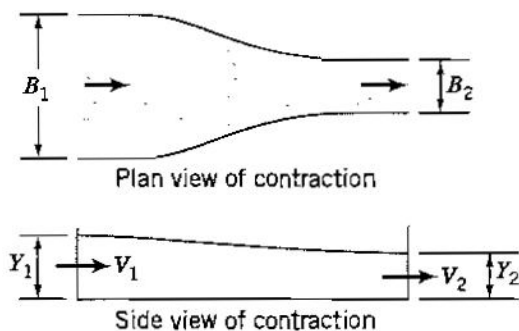

Figure P10.61
10.61 For the open-channel flow in the smooth contraction shown in plan view in Figure P10.61, the depth of the incoming flow is Y_1 and the depth of the exiting flow is Y_2 . The flow attains the critical Froude number at the throat. If the upstream Froude number is much less than unity, show that $Y_2/Y_1 \approx 2/3$, and that